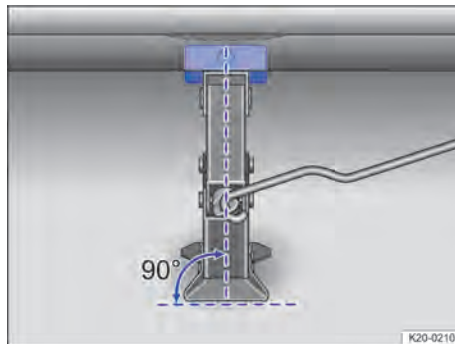
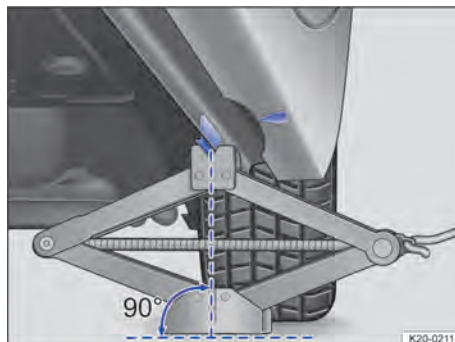

Fig. 218 Correct alignment of the jack.
Fig. 219 Correct alignment of the jack.
4. Make sure that the entire surface of the foot of the jack is resting securely on the ground and that it is positioned vertically directly beneath the jacking point → Fig. 218 and → Fig. 219.
5. Position the jack and simultaneously continue to crank the claw up until it is in position around the jacking point underneath the vehicle → Fig. 219.
- Fit the jack only at the described jacking points. The jack claw must grip the vertical rib under the door sill securely → Fig. 219.